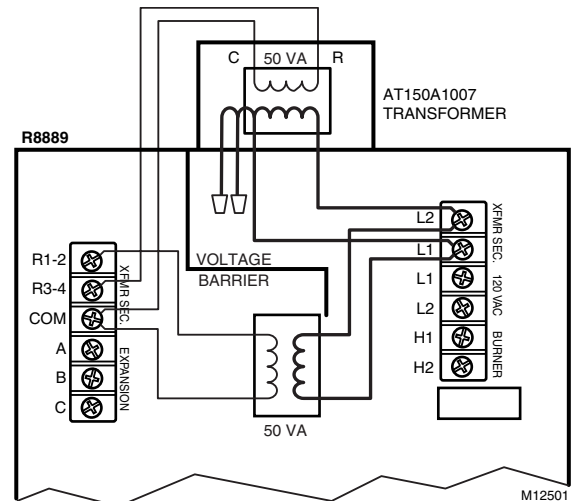

Fig. 6. Wiring AT150A1007 to R8889C,D for 0.9A zone current rating.
3. Connect the line voltage input leads (black and white) to the R8889 XFMR. PR1. L1 and L2 screw terminals (black to L1, white to L2). Make sure the internal transformer wires are connected to L1 and L2. See Fig. 6.
6. Connect the low voltage output leads (R and C) to R3-4 and COM (R to R3-4, C to COM). See Fig. 6.